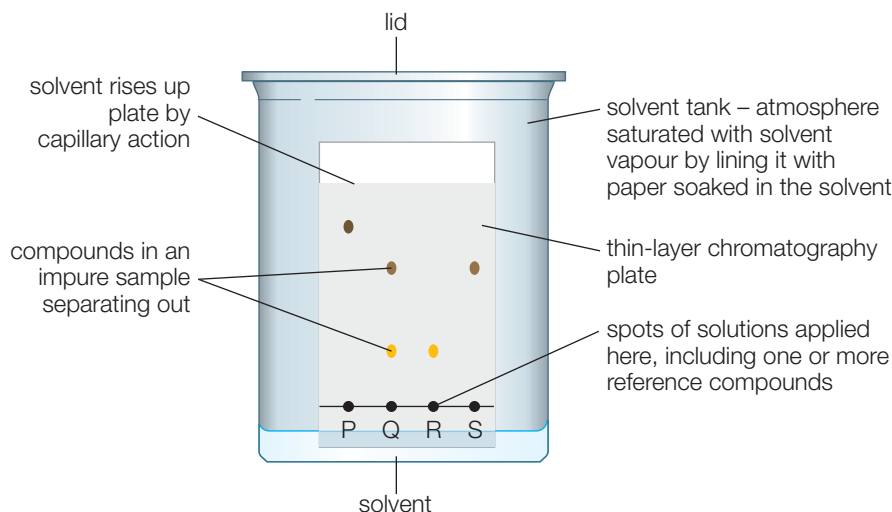

Figure 8.5 ◀
- 6 Which of the four samples P, Q, R and S in Figure 8.5:
- 7 Estimate the R_f values for the yellow dye in Figure 8.5.